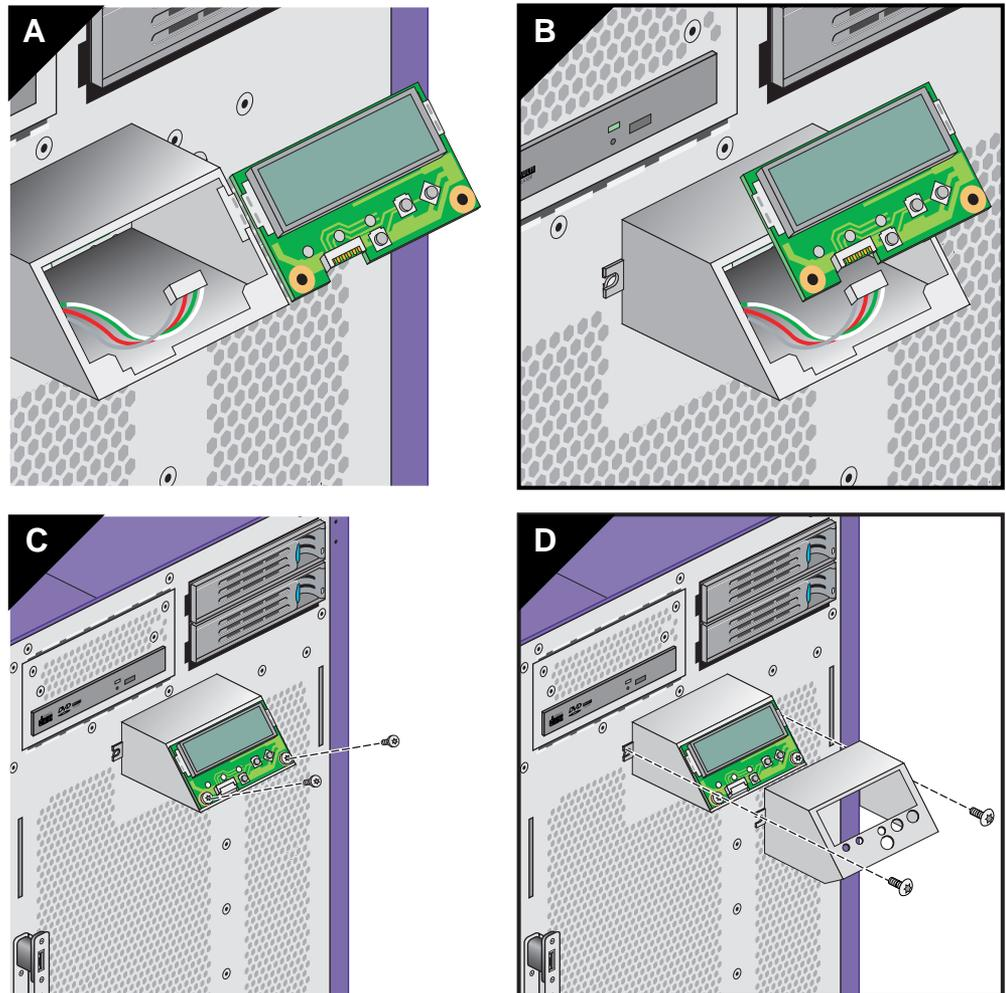

Figure 3-38 Installing the L1 Display Board
5. Connect the L1 display cable to the replacement L1 display board (see Figure 3-38).
6. Install the two screws that secure the L1 display board to its bracket (see Figure 3-38).
7. Align the hooks on the bracket with the holes in the enclosure. Insert the hooks into the holes, and then press down to seat the bracket on the front of the enclosure (see Figure 3-38).
8. Slide the outside cover over the L1 display. Then install the two screws that secure the L1 display to the front of the enclosure (see Figure 3-38).